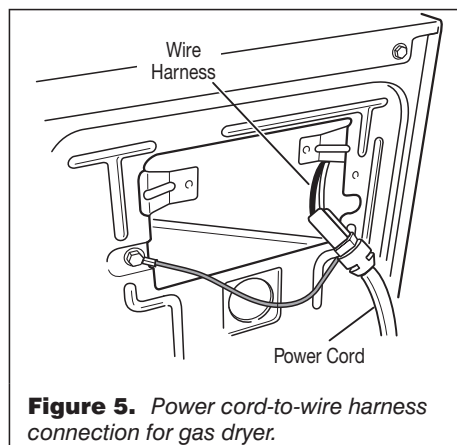
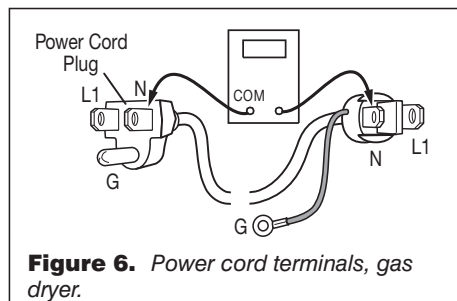

Figure 5. Power cord-to-wire harness connection for gas dryer.
Figure 6. Power cord terminals, gas dryer.
3. Check that the power cord is firmly connected to the dryer's wire harness. See figure 5.
5. With an ohmmeter, check for continuity between the neutral (N) terminal of the plug and P8-3 (white wire) on the machine control board. The left-hand side of figure 6 shows the position of the neutral terminal (N) on the power cord plug. Also see figure 17, page 10.
→ If there is no continuity, disconnect the white wire of the harness from the power cord at the location illustrated in figure 5. Test the continuity of the power cord neutral wire as illustrated in figure 6. If an open circuit is found, replace the power cord. Otherwise, go to step 6.
→ If there is no continuity, check the continuity of the power cord in a similar way to that illustrated in figure 6, but for power cord's L1 wire.